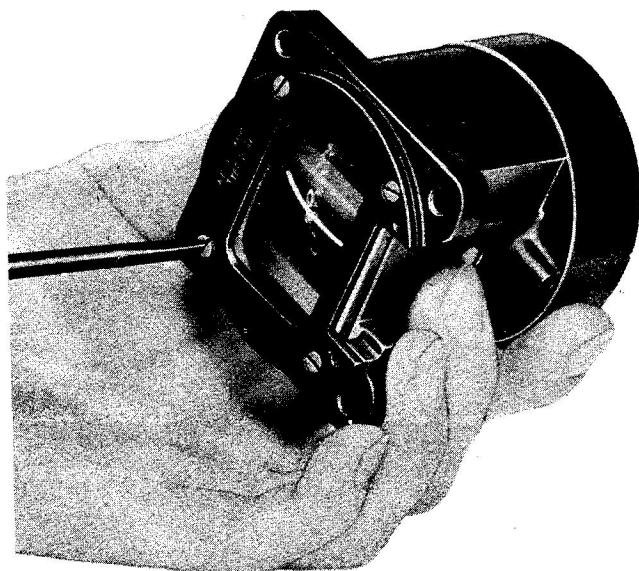

Figure 10 — Remove Bezel Screws
(5) Remove the four bezel screws. (See figure 10.)